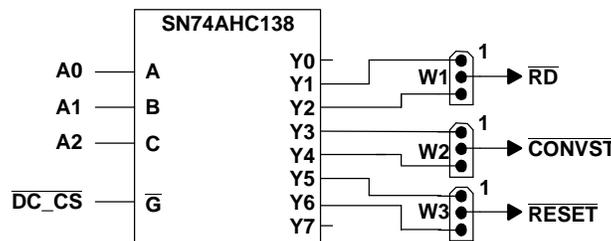

Figure 2. Decoding Control Signals Using the Address Bus
For the software engineer the ADS7881EVM/ADS7891EVM provides a simple platform for interfacing to the converter. The EVM provides standard 0.1" headers and sockets to wire into prototype boards. The user need only provide in 3 address lines (A2, A1, A0) and address valid line(DC\_CS) to connector P2, as shown in Figure 2. To choose which address combinations will generate RD, CONVST, and RESET set jumpers as shown in Table 4. Recall chip select (CS) signal is not memory mapped or tied to P2, therefore it must be controlled via general purpose pin or shorted to ground at J3 pin 1. If address decoding is not required, the EVM provides direct access to converter data bus via P3 and control via J3.